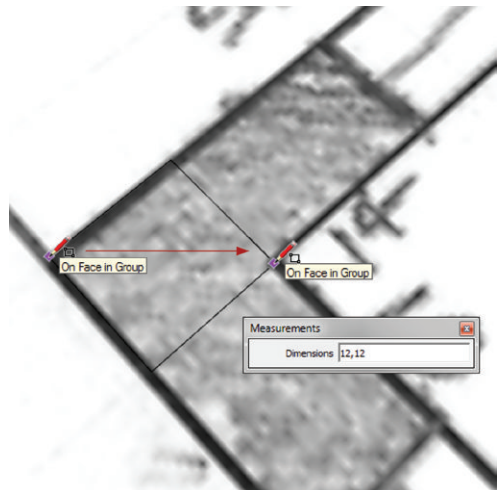

Figure 17.25 Square drawn in the southwest corner of the plan
1. Draw a square at 12" × 12" in the corner of the plan (Figure 17.25).